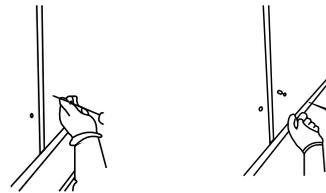

Figure 1
1. Take the anchor bolts from the parts package supplied with this installation manual and fasten each into the bolt holes of the refrigerator and freezer doors with a Phillips-head screwdriver. See Figure 1.